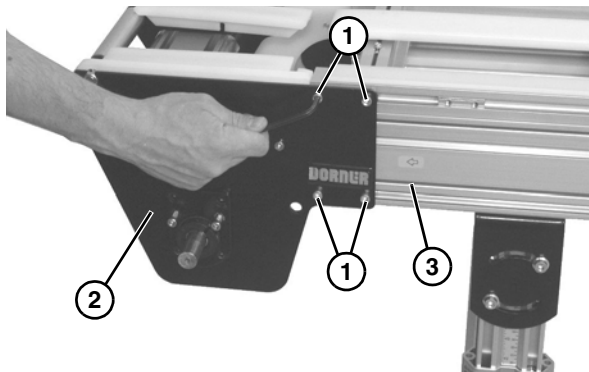

Figure 41
4. Loosen the four socket head screws (**Figure 41, item 1**). Repeat on opposite side.
5. Remove the drive tail assembly (**Figure 41, item 2**) from the frame (**Figure 41, item 3**).